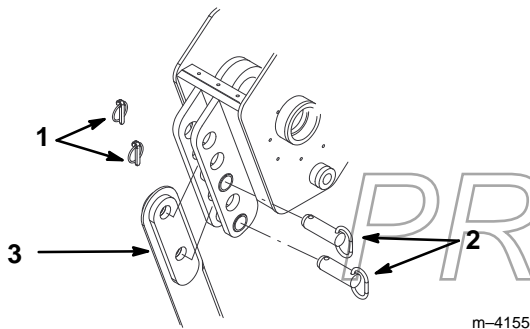

Figure 2
3. Remove the two click pins from the clevis pins in the blade bracket, then remove the clevis pins (Fig. 2).
4. Slide the blade into the blade bracket and secure it at the desired depth (a change in mounting holes will change the depth by 3 in. (7.6 cm)), using the clevis pins and click pins removed previously (Fig. 2).
- Remove the lower click pin and clevis pin securing the blade to the plow (to completely remove the blade, remove both the upper and lower click and clevis pins) (Fig. 2).